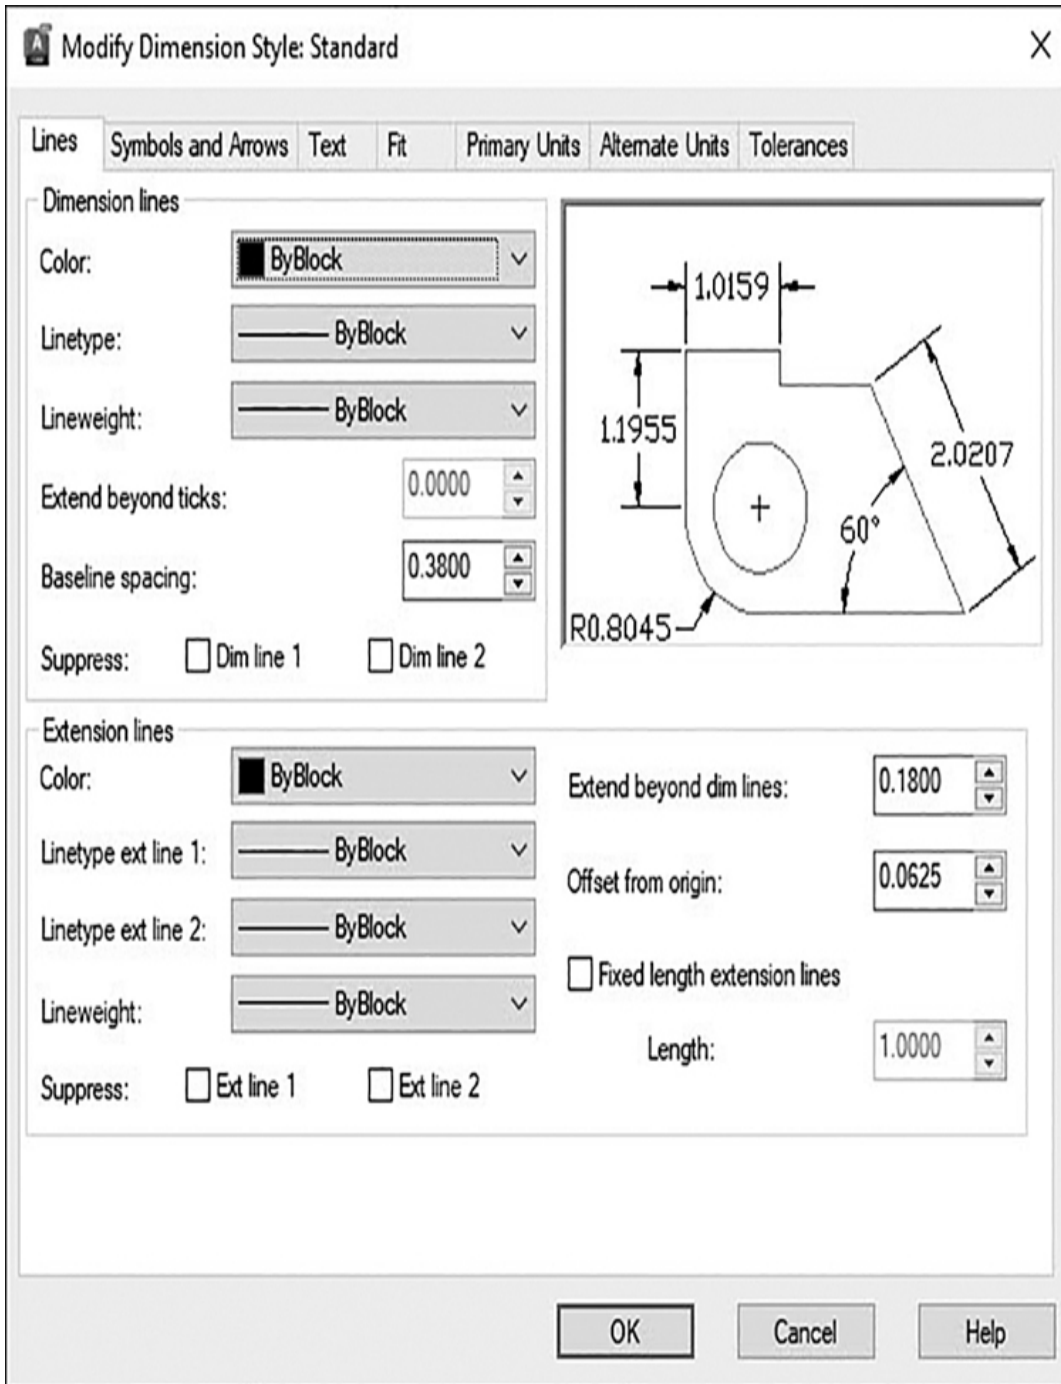

Figure 2-31
- 3 Choose the **Modify...** button to modify the **Standard** dimension style. The **Modify Dimension Style** dialog box appears (see Figure 2-31).